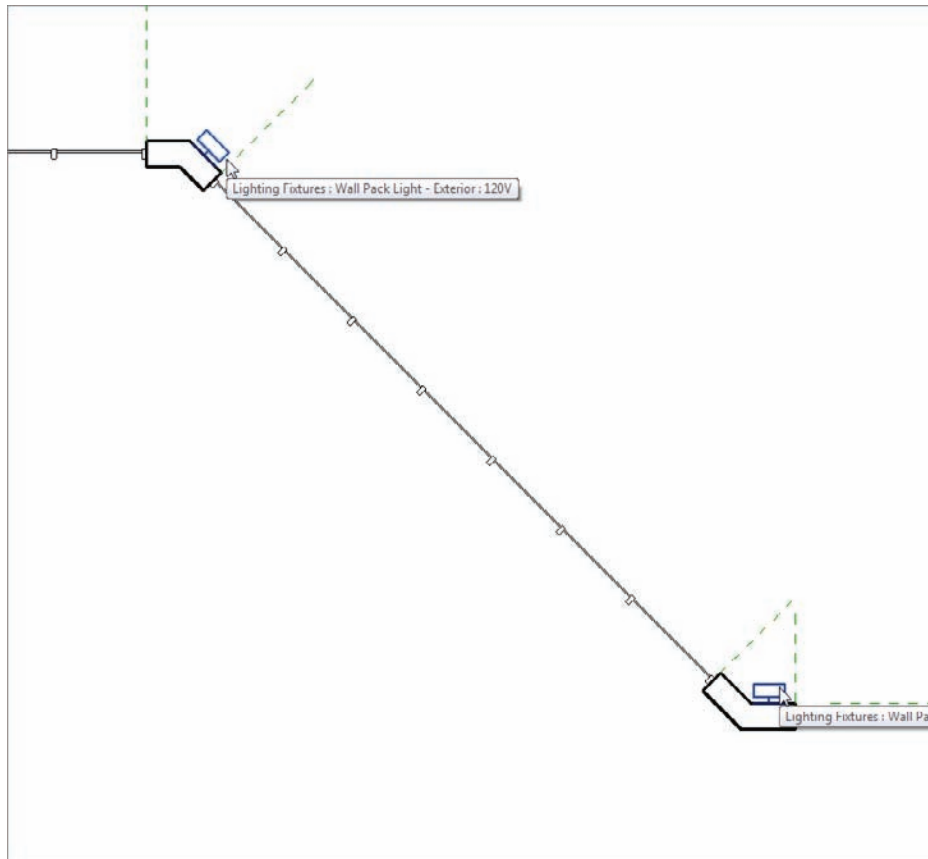

FIGURE 19.10 Placing the exterior lights
7. Place the lights at the locations shown in Figure 19.10.